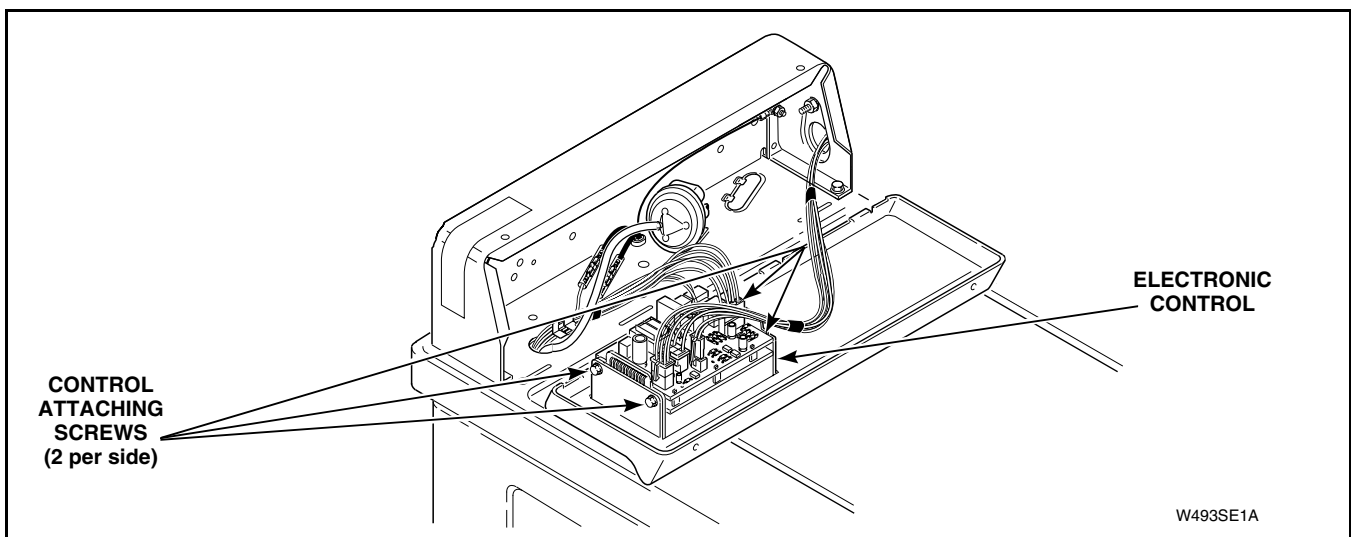

Figure 8
electronic control assembly. Refer to *Figure 8*.
- (3) Remove four screws holding electronic control assembly to backside of control panel. Refer to *Figure 8*.
- (4) Place the old control in the anti-static wrapping that the new control was supplied in.
- (5) While holding new control by its metal edges, carefully peel off protective plastic coating from front side of control. Then place control in opening of control panel and fasten control down with four screws.
- (6) Follow wiring diagram and reconnect wires to new control.